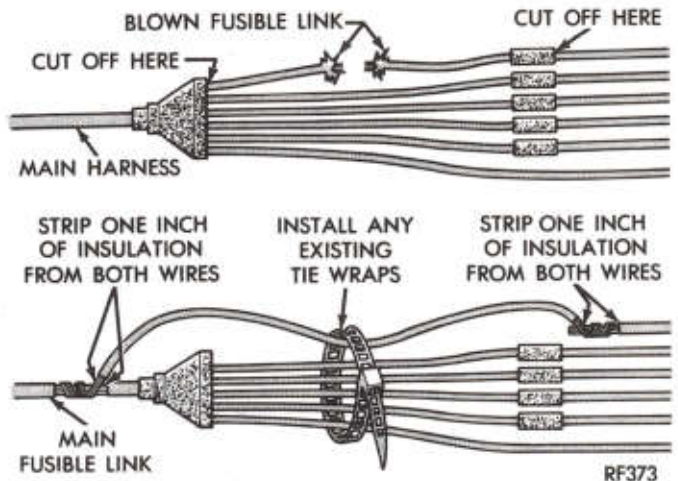

Fig. 7—Fusible Link Repair
(5) Heat splice with a high temperature soldering gun, apply rosin type solder until it flows freely, and remove soldering gun. **Do not use acid core solder** (Fig. 7).
- (1) Disconnect negative battery cable.
- (2) Cut fusible link including connection insulator from main harness wire.
- (3) Remove 1 inch of insulation from both new fusible link and main harness wire and wrap together.
- (4) Heat splice with a high temperature soldering gun, apply rosin type solder until it flows freely and remove soldering gun. **Do not use acid core solder** (Fig. 7).
- (5) Allow to cool and wrap new splice with a minimum of 3 layers of suitable electrical tape.